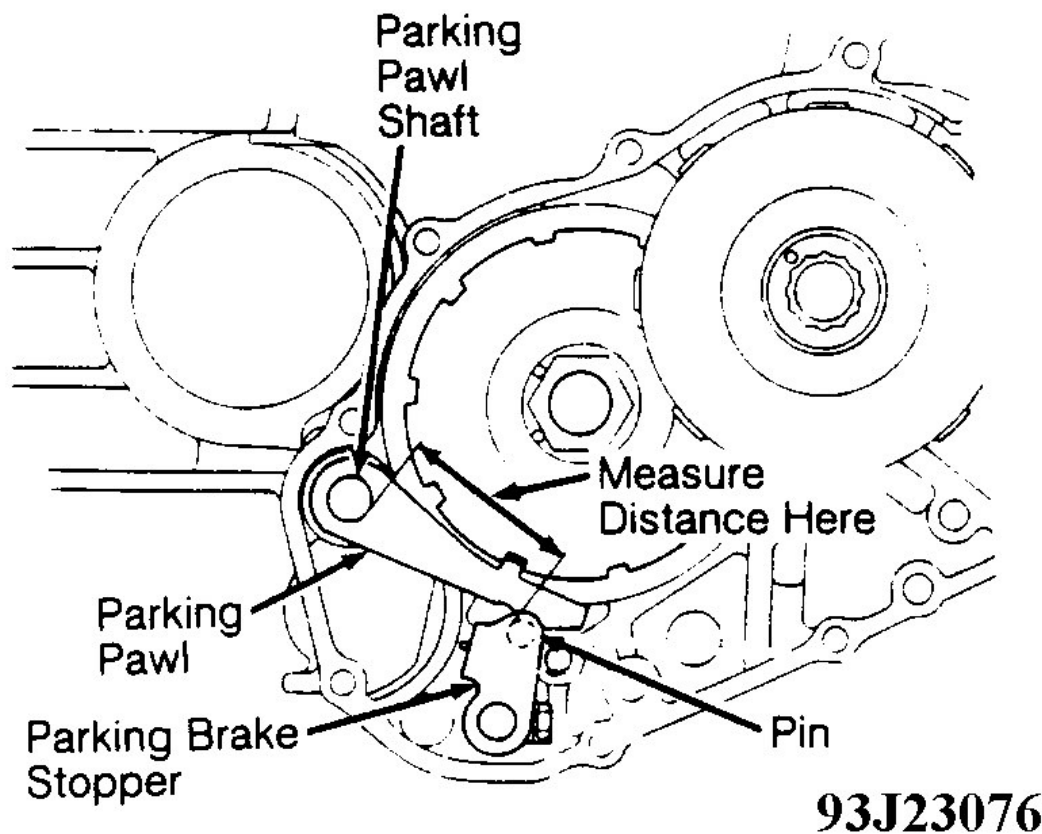

Fig. 39: Measuring Parking Brake Stopper Distance
28. Place parking brake lever in "P" position and ensure parking pawl engages parking gear. Measure parking brake stopper distance between parking pawl shaft and pin on parking brake lever. See **Fig. 39** .